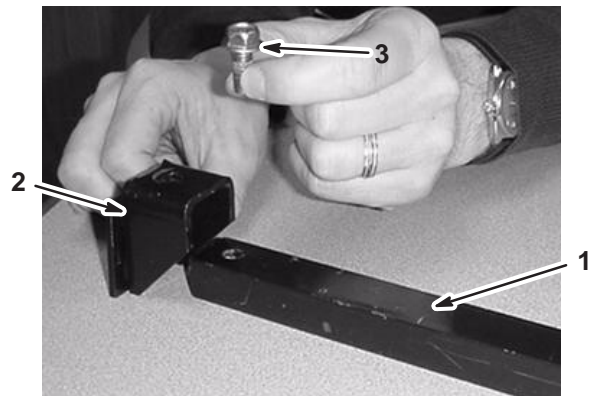

Figure 2
1. Fasten the brake bar brackets to the brake bars using 2 flange-head bolts (Fig. 2).